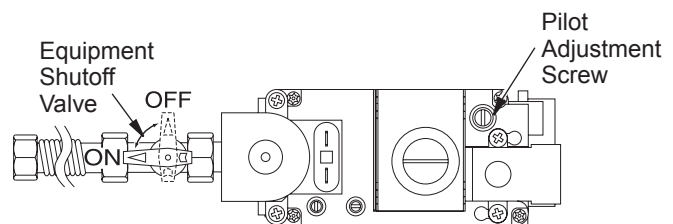

Figure 42 - Turning Equipment Shutoff Valve to the OFF Position
5. Turn equipment shutoff valve clockwise  to the OFF position (see Figure 42). Do not force.
6. Wait five (5) minutes to clear out any gas. Then smell for gas, including near the floor. If you smell gas, STOP! Follow "B" in the safety information in column 1. If you don't smell gas, go to the next step.
- Turn the adjustment screw marked PILOT clockwise to decrease or counterclockwise to increase the flame to proper size (see Figure 42, page 23). Do not remove the adjustment screw.